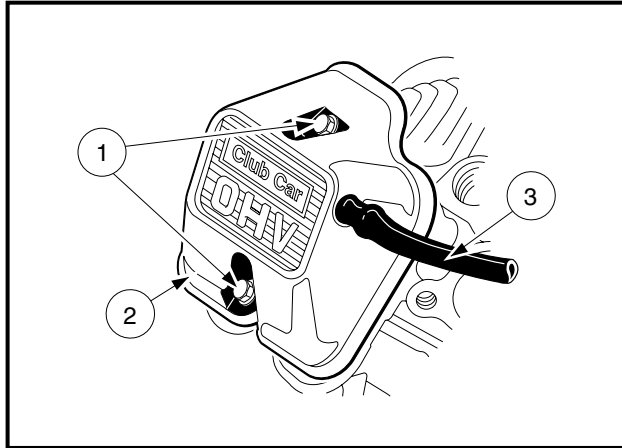

Figure 13-10 Remove Rocker Cover and Breather Tube
1. Remove the two bolts (1) and remove the rocker cover (2) along with the breather tube (3) (**Figure 13-10, Page 13-11**).